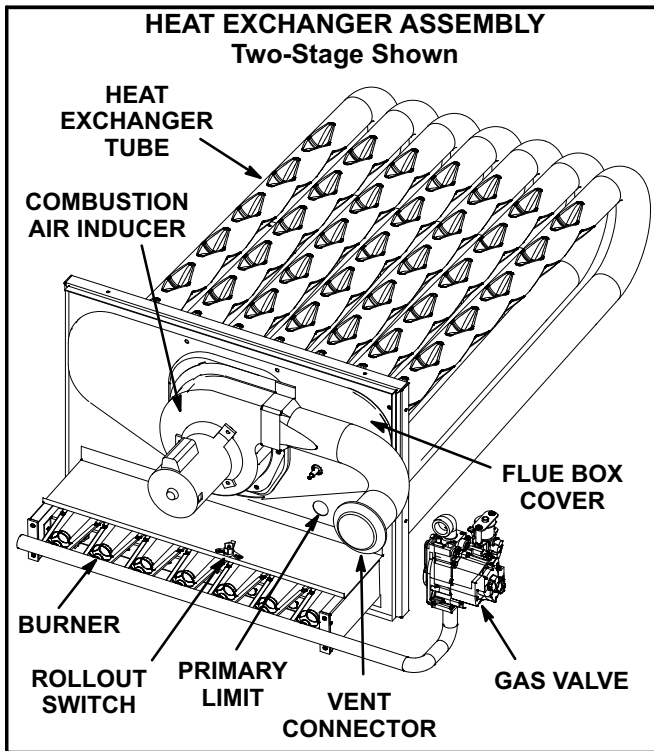

FIGURE 28
Limit controls are factory-set and are not adjustable. The primary limit is located to the right of the combustion air inducer. See figure 28.
- 4- Remove and retain screws securing combustion air inducer to flue box. Remove vent connector. See figure 28.